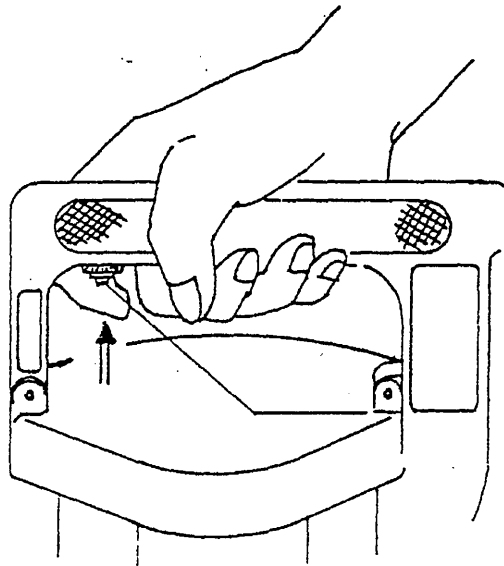

Fig. 04
A. Machine Operation (See also Fig. 04)